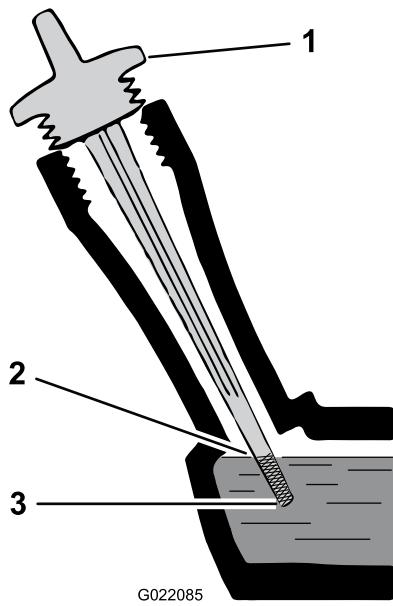

Figure 29
8. Slowly pour oil into the oil fill tube, periodically checking the level with the dipstick, until the dipstick indicates that the engine is full (Figure 29). **Do not overfill.**